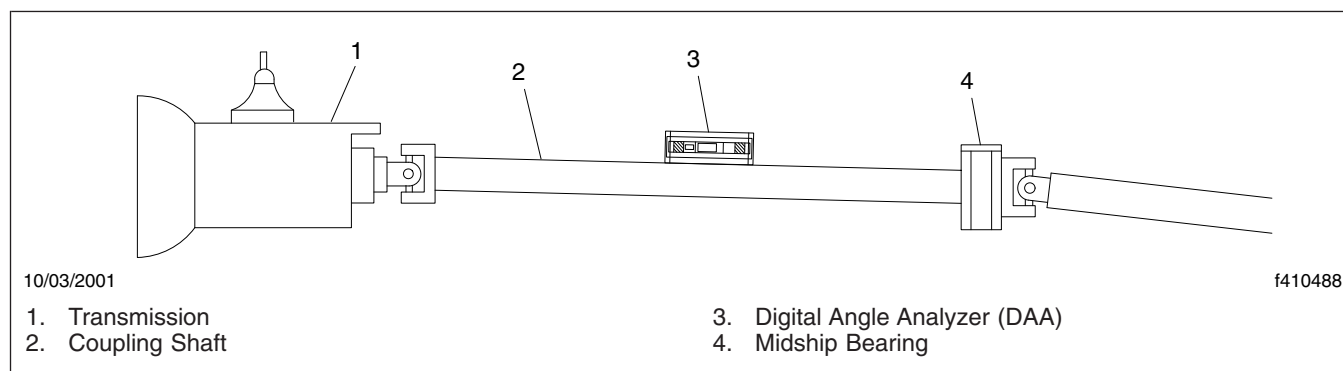

Fig. 2, Coupling Shaft Angularity
2. If the driveline includes a midship bearing, place a digital angle analyzer (DAA) on top of the coupling shaft. Align the DAA with the shaft centerline. See Fig. 2. Read the scale to the nearest one-tenth of a degree (6 minutes). The centerline of the coupling shaft must be $1/2$ degree out of vertical alignment with the transmission output shaft. See Fig. 3. Compare this reading with the measured engine angle.